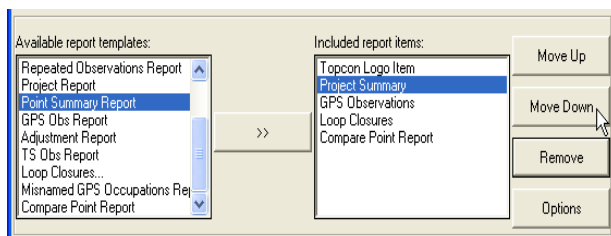

Figure 7-41. Order Included Items
3. Select items and click the **Move Up** and **Move Down** buttons to set the order of items in the included list (Figure 7-41).